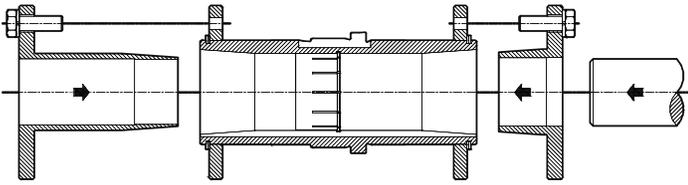

Figure 6 - Short Shaft Bushing & Output Hub Assembly
2. The long bushing is designed to be installed from the side of the reducer opposite the driven equipment as shown in Figure 6. The long bushing when properly installed is designed to capture the end of the customer shaft that does not extend through the reducer. Normally the reducer would be mounted such that the input shaft extends from the side of the reducer opposite the driven equipment however the reducer design allows installation of the reducer to be mounted in the opposite direction.
3. Install the tapered bushing wedge into the hollow bore of the reducer from the same side as the long bushing will be installed. When installing the tapered bushing wedge into the reducer hub, install the flange end first so that the thin taper is pointing outwards towards the long bushing as shown in Figure 6. The wedge is properly installed when it snaps into place in the reducer hub.